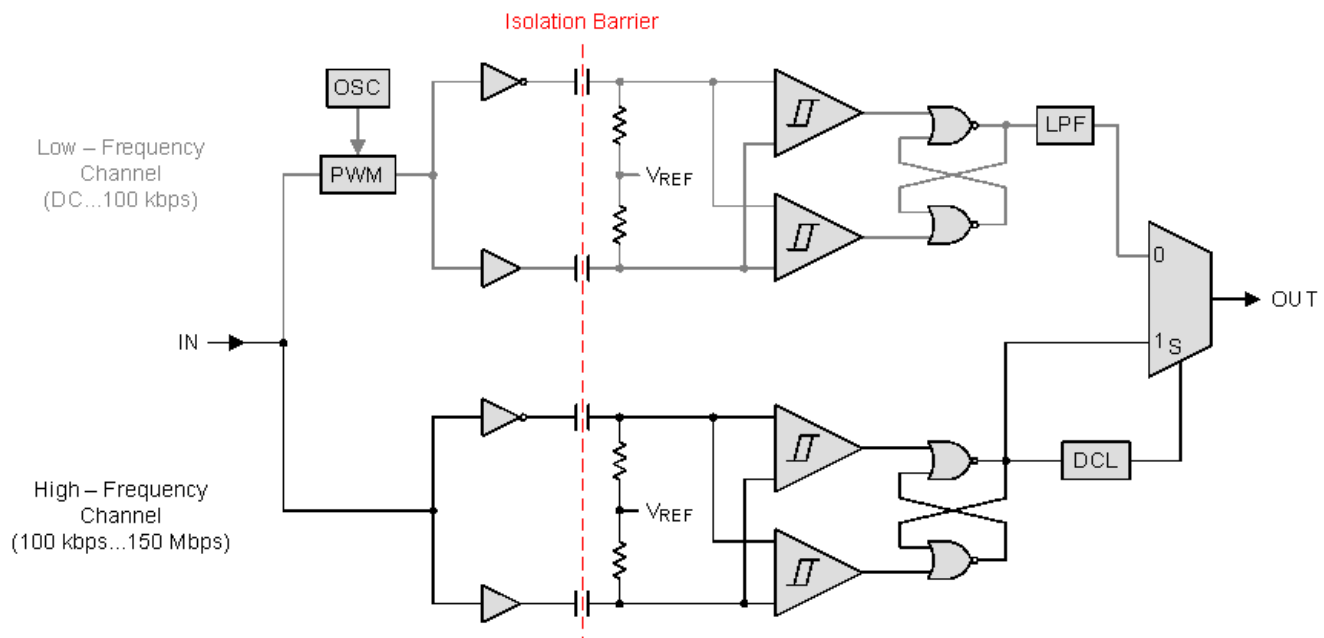

Figure 17. Conceptual Block Diagram of a Digital Capacitive Isolator
The isolator in Figure 17 is based on a capacitive isolation barrier technique. The I/O channel of the device consists of two internal data channels, a high-frequency channel (HF) with a bandwidth from 100 kbps up to 150 Mbps, and a low-frequency channel (LF) covering the range from 100 kbps down to DC. In principle, a single-ended input signal entering the HF-channel is split into a differential signal via the inverter gate at the input. The following capacitor-resistor networks differentiate the signal into transients, which then are converted into differential pulses by two comparators. The comparator outputs drive a NOR-gate flip-flop whose output feeds an output multiplexer. A decision logic (DCL) at the driving output of the flip-flop measures the durations between signal transients. If the duration between two consecutive transients exceeds a certain time limit, (as in the case of a low-frequency signal), the DCL forces the output-multiplexer to switch from the high- to the low-frequency channel.